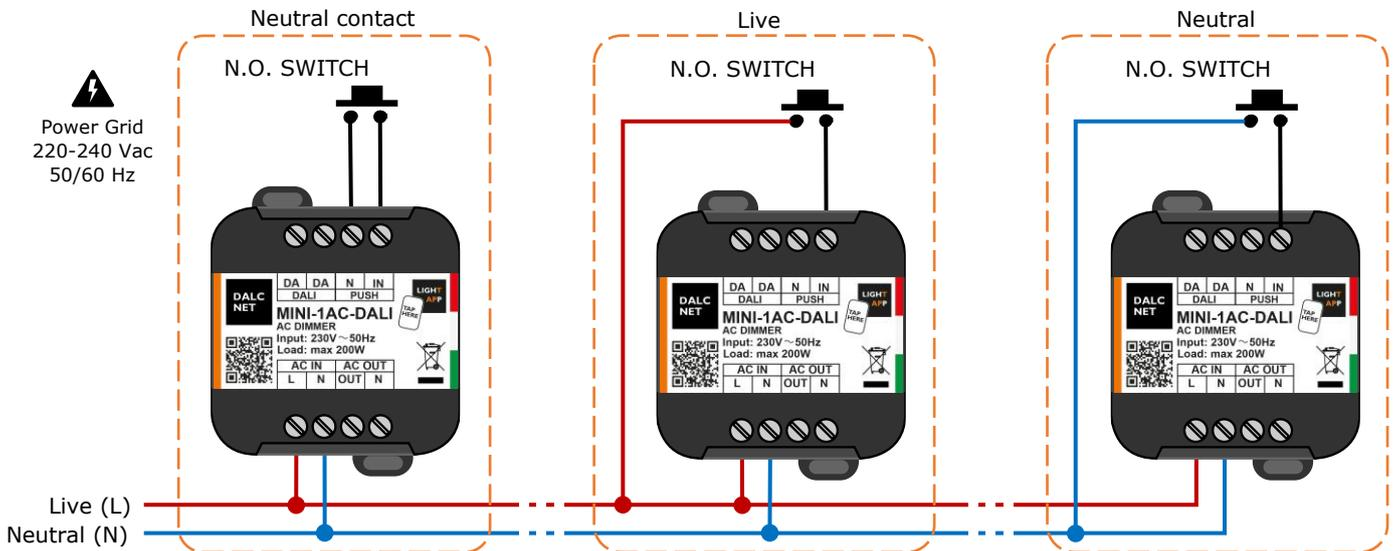

Figure 3: Local Command wiring diagram
- Local control wiring:** connect the N.O. button to the "IN" and "N" terminals of the "PUSH" input respecting one of the wirings shown in the connection diagram in Figure 3.
- Power supply wiring:** Connect the 230 Vac @ 50 Hz mains power supply to the "AC IN" terminals respecting the Live (L) and Neutral (N) convention to terminals "L" and "N" respectively.
Figure 3 shows three different wiring possibilities for the local control: N.O. switch connected as a Neutral (N) contact, connected to Live (L) or Neutral (N).